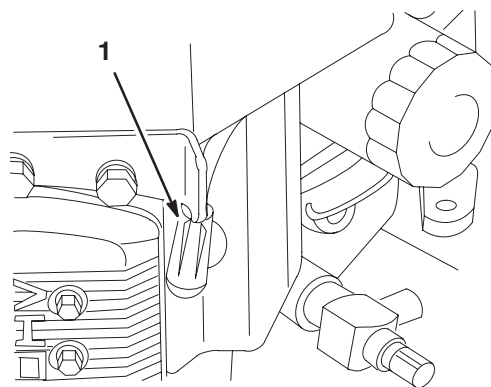

Figure 36
3. Disconnect the wire(s) from the spark plug(s) (Fig. 36).
3. Connect the wire(s) to the spark plug(s) (Fig. 36).